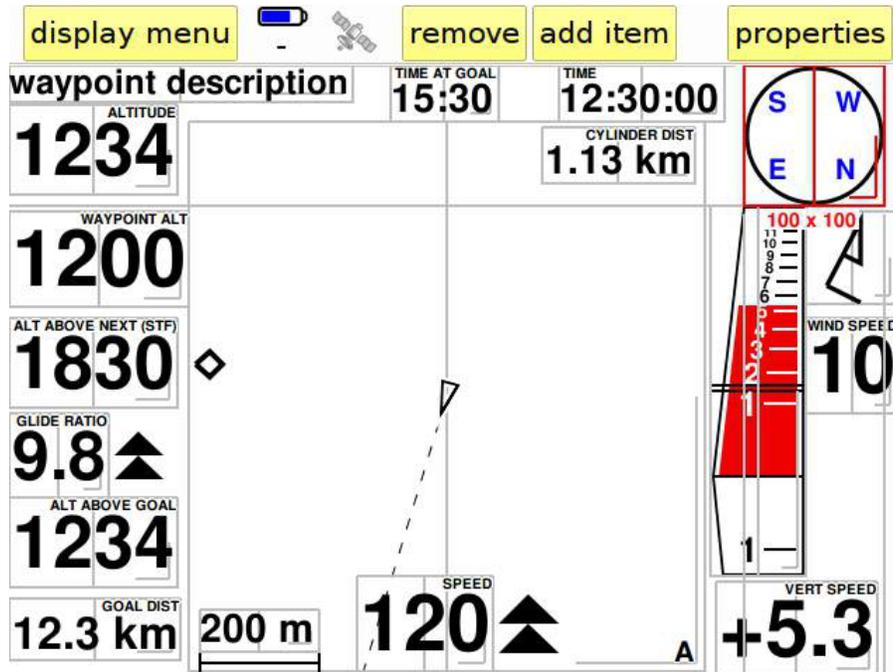

Figure 26: editing a display
- **Edit:** allows you to fully customise the display. The editing interface (Figure 26) shows all the data fields that are included in the selected display. Each field is divided in two halves. By dragging the left half you can place the field where you want on the screen. The right half allows you to resize the field. There are a lot of data fields. We shall describe them in the next paragraph. For each data field, C-Pilot PRO shows a descriptive label (such as “Altitude”) that can be resized by means of a command in the “**display menu**”.